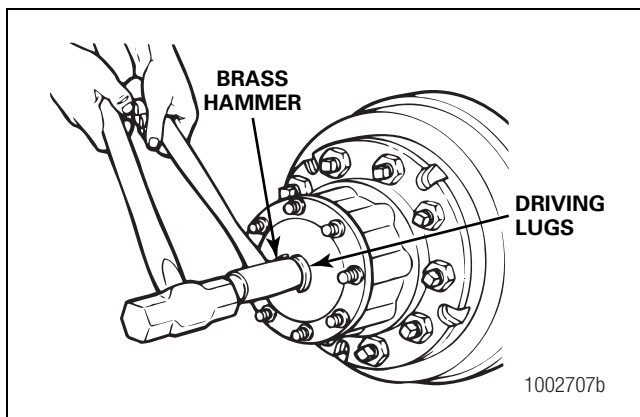

Figure 3.2
1. Hold a 1-1/2-inch diameter brass drift or brass hammer against the center of the axle shaft, inside the round driving lugs. Figure 3.2.
8. Disconnect the driveline universal joint from the pinion input yoke or flange on the carrier. Figure 3.2.